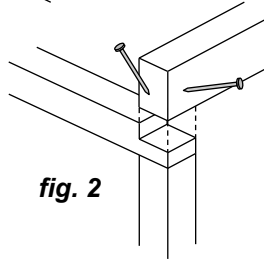

fig. 2
**Step 2:** Select Back and Front Base Plates 1.980m (Green), Back Top Plate 1.980m (Red) and Front Top Plate (70x45mm). With one End Frame lying on the ground, nail plates to frame, two 75mm nails per join. Ensure Green joins to Green and Red joins to Red. See (**fig. 2**) for nailing detail on Top Front Plate (70x45mm).